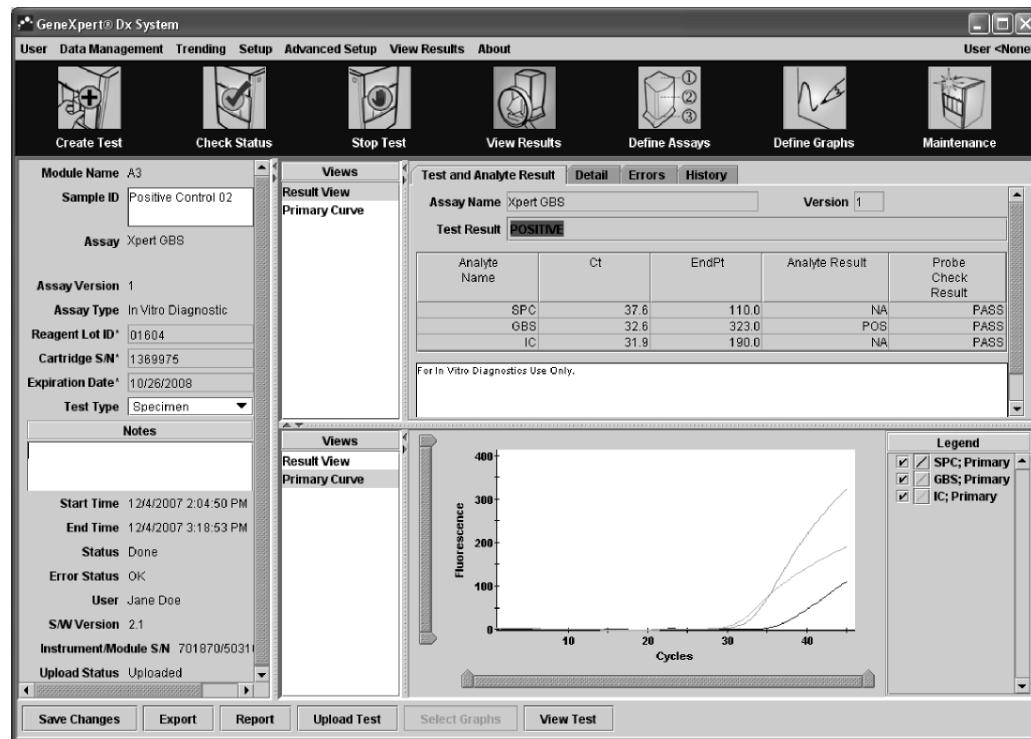

Figure 6-12. Host Upload shown in the Test Information area of the View Result window
After the test is completed, the result will be automatically uploaded. The Upload Status is shown in the Test Information area of the View Result window (Figure 6-12).
2. Click **Upload Test** in the View Results window (Figure 6-12). The Select Test(s) To Be Uploaded To Host window appears, displaying completed tests (Figure 6-13).